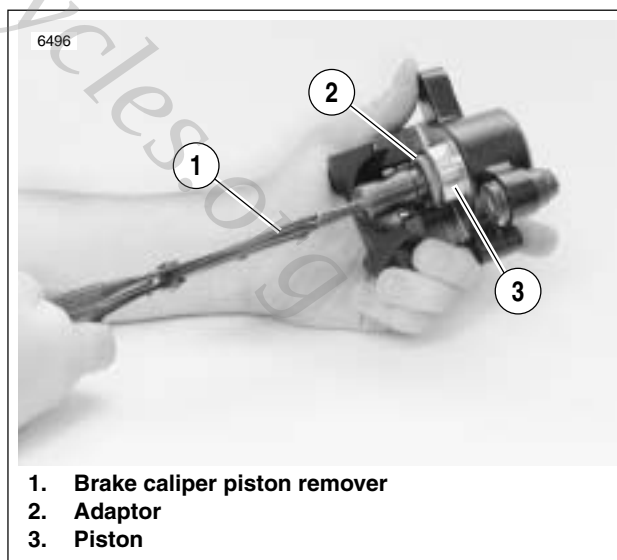

Figure 2-59. Removing Rear Brake Caliper Piston
3. See Figure 2-59. Remove piston (3) using BRAKE CALIPER PISTON REMOVER (1) (Part No. B-42887) with adaptor (2).